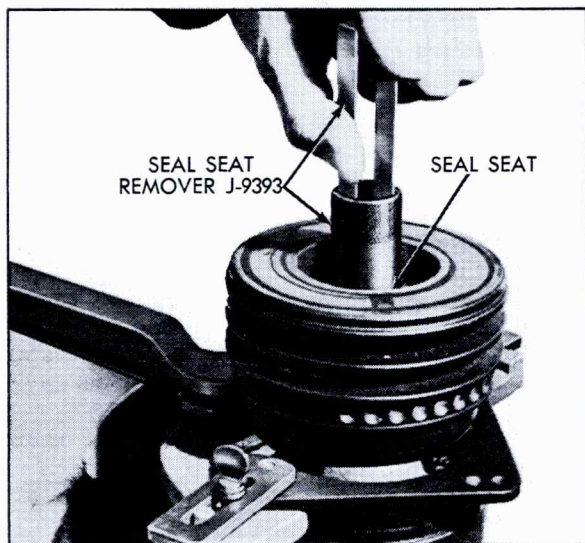

Fig. 1-50 Removing Seal Seat
5. Remove seal seat using Seal Seat Remover and Installer, J-9393, Fig. 1-50. Grasp seal seat flange with tool and pull straight up on end of tool to remove seal seat.